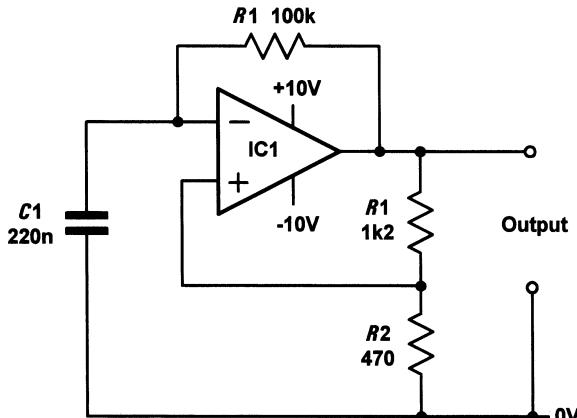

Figure 9.18
9.4 Determine the peak-peak voltage developed across C_1 in Fig. 9.18.